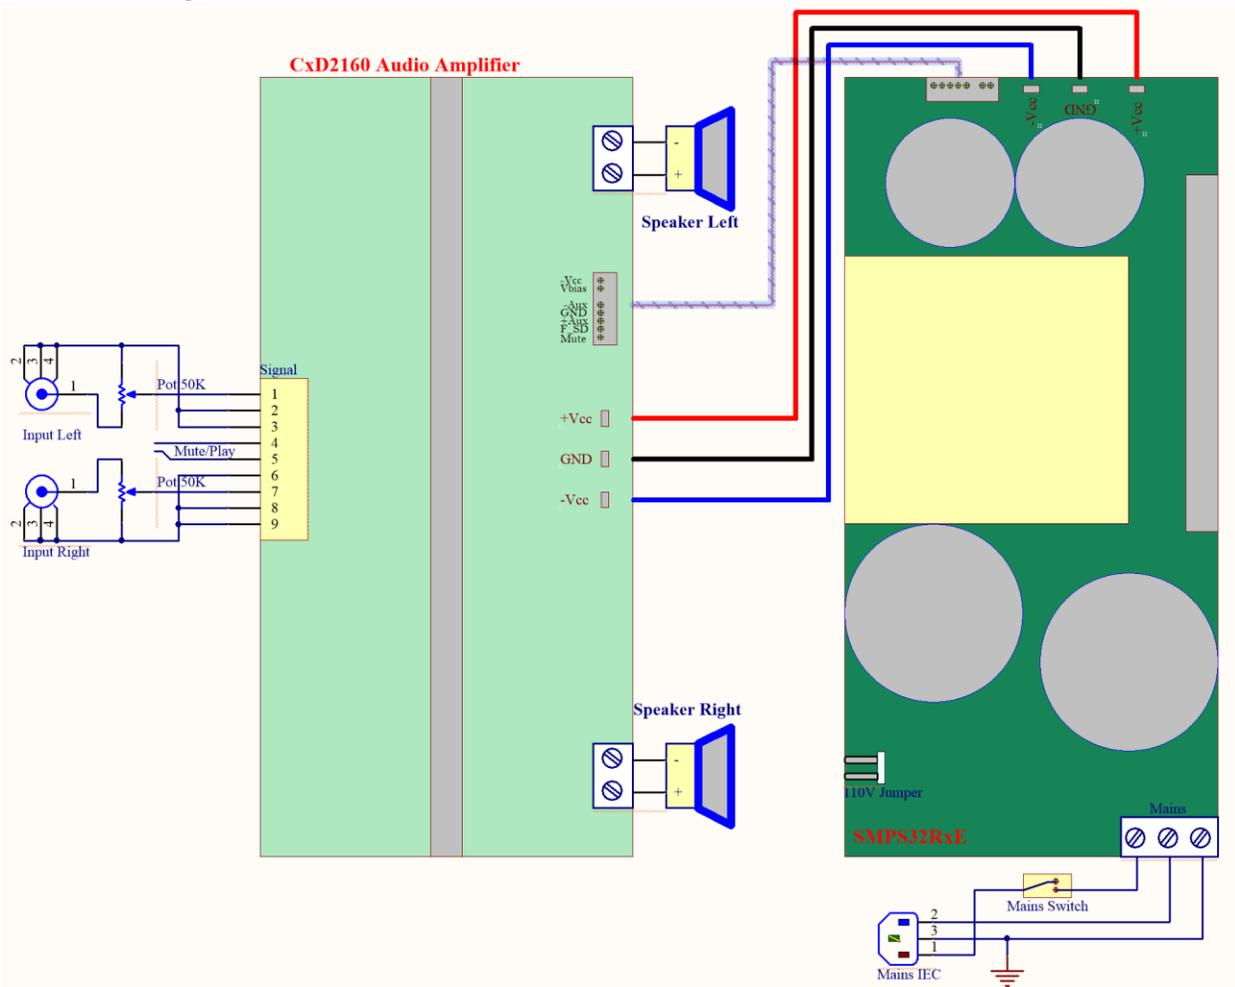

Figure2: CxD2160 Amplifier Module & SMPS320RxE Interconnection using unbalanced RCA connectors and potentiometer
The most common and simple configuration use one SMPS320RxE as power supply, unbalanced input signal and a dual potentiometer for adjusting the volume. CxD2160 Amplifier Module can be supplied with either balanced or unbalanced audio signal with the maximum amplitude of 1.5V rms for ver.2 and 0.775V for ver.3. The audio signal must be applied at the input of the CxD2160 Amplifier Module, on the Signal connector as can be seen in the following schematics. In the first schematic represented in **Figure2**, the signal phase is inverted for left channel input and the left speaker is also connected in antiphase to reduce bus pumping phenomenon. To be able to conveniently adjust the listening volume it is strongly recommended to use a potentiometer, logarithmic type with 50K Ω value or maximum 100K Ω .
1. Unbalanced input using RCA Connectors and potentiometer, explained in the description of **Figure2**.